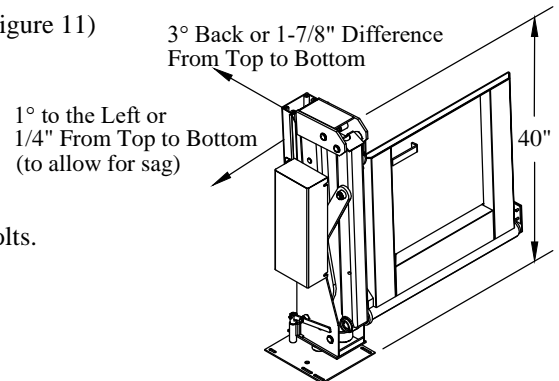
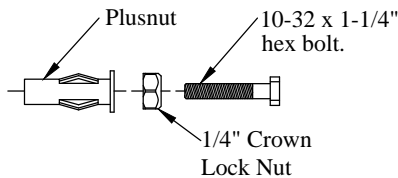

Figure 10: Liftgate properly tipped.
Figure 11: Plusnut parts.
4. **Position** the liftgate so it is tipped 3 degrees back and 1 degree to the left (Figure 10).
7. **Locate** and **Drill** eight (8) 5/16" holes into the rear door header, using the top angle bracket as a guide. Choose eight (8) of the angle bracket holes without obstructions.
8. **Assemble** the Plusnut with the 1/4" crown lock nut and 10-32 x 1-1/4" hex bolt (Figure 11)